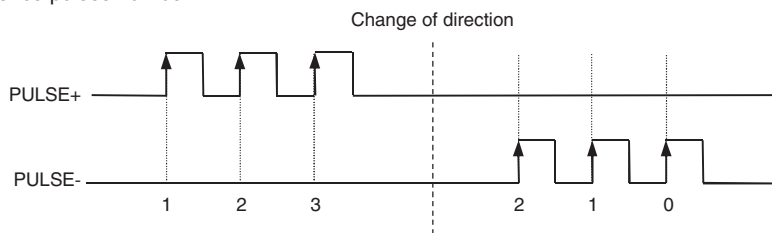

Fig. 1.6.
2) Series of pulses PULSE+/PULSE- (input waveform is shown in figure 1.6): In this case, one period of the reference signal PULSE+ or PULSE- turns the motor shaft by 1/4 of the period of the feedback encoder signal. Simultaneous injection of the signals PULSE+ and PULSE- with different frequencies is allowed, at that case, the motor shaft will pass a path equal to the difference of the reference pulses number.